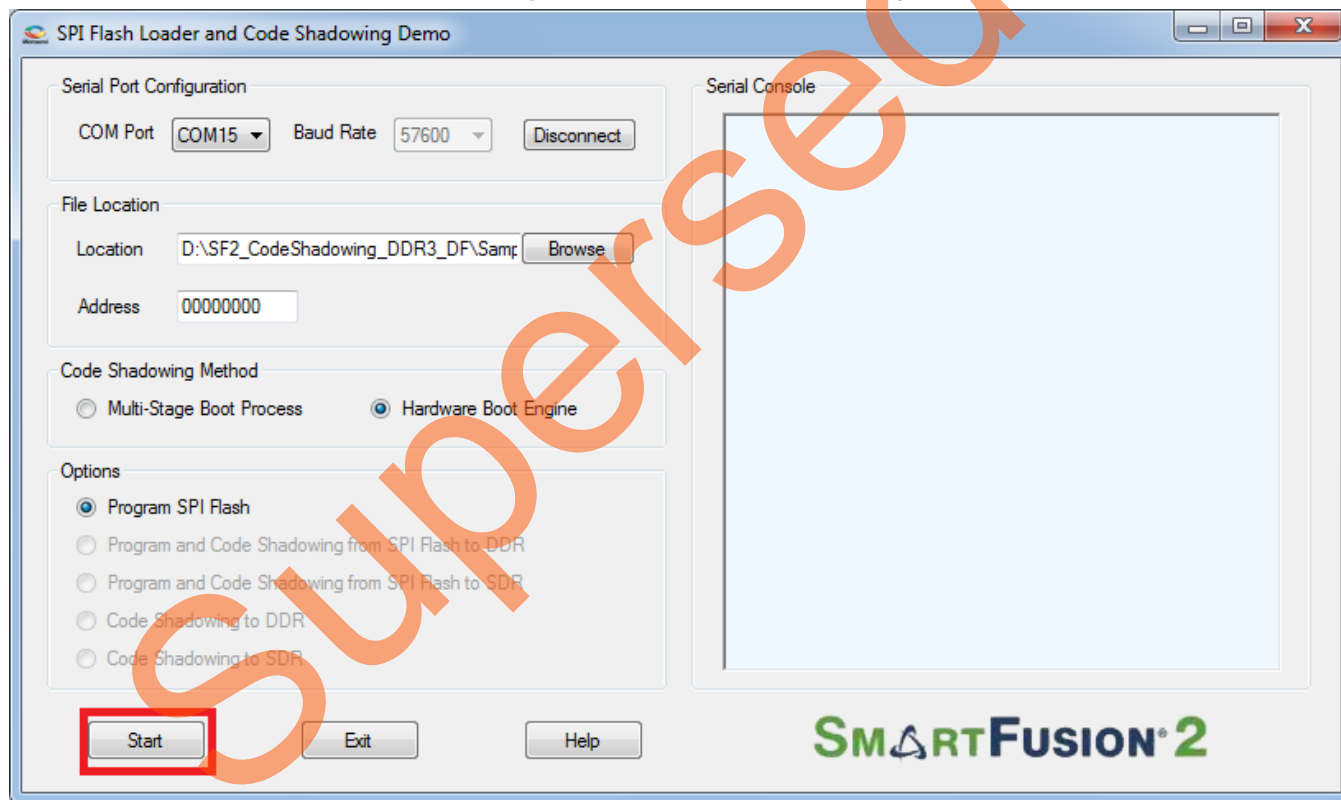

Figure 14. Starting the Demo
10. Click **Start**, as shown in Figure 14 to load the executable image into SPI flash.